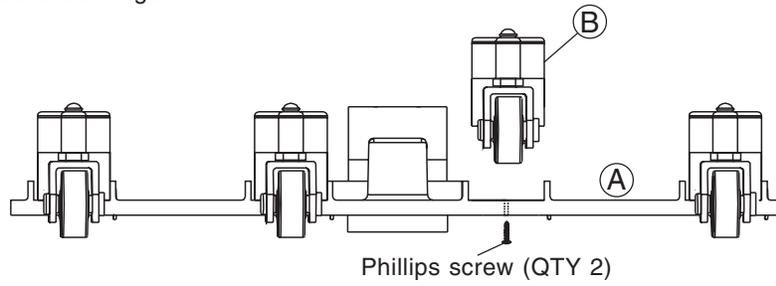

Figure 3.
3. Install the weighted body block (B) onto the vacuum body (A) by using a screwdriver to tighten the two Phillips head stainless steel screws from the bottom. See Figure 3.